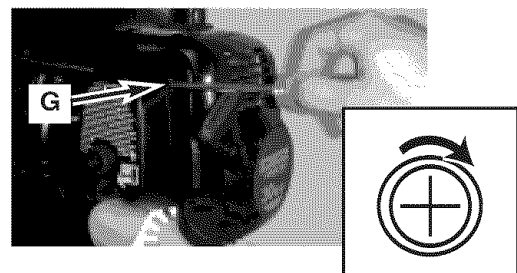

Fig. 15
1. Locate the idle adjustment screw (G) on the carburetor (Figure 15).